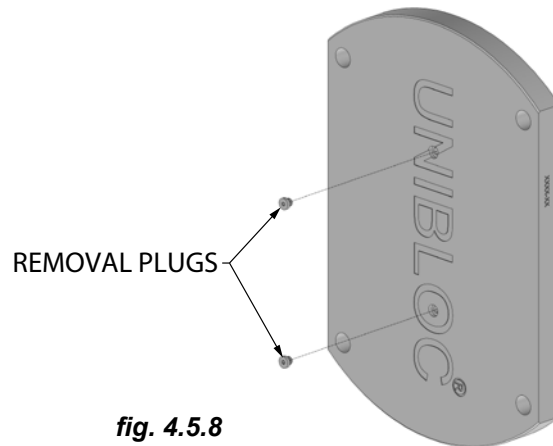

fig. 4.5.8
4.5.2.4.4 FoodFirst Front Cover Spacer Cap Removal- UNIBLOC 300-575 (ref. fig. 4.5.8, 4.5.9, 4.5.10)
The **Front Cover Spacer Caps** may be removed from the **Front Cover** by first removing the handle or swing arm, if present, (see pg.74&75) to allow access to the **Removal Plugs** (fig.4.5.8). Remove the two **Removal Plugs** (fig.4.5.8) and safely store.